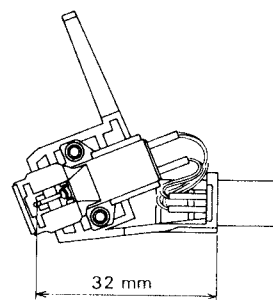

Fig. 21
## 6-(2) Overhang Adjustment (Fig. 21)